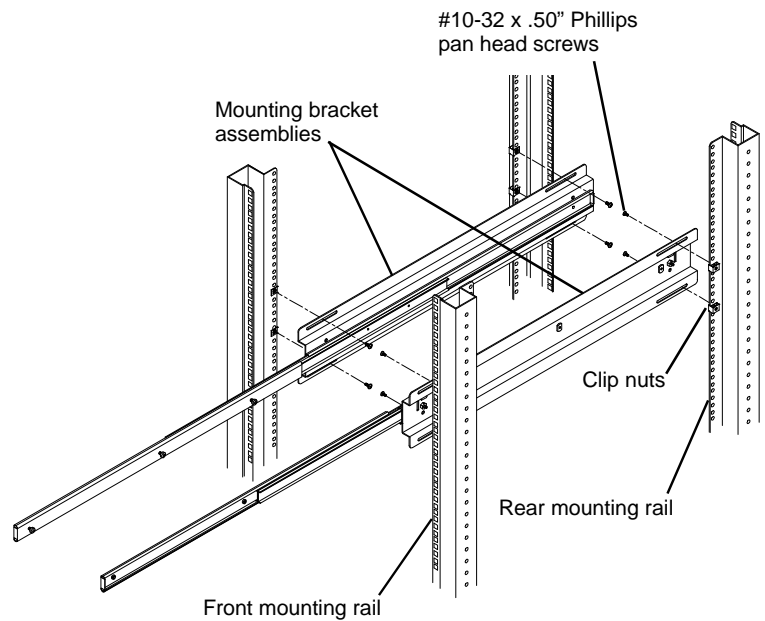

Figure 6
3. Attach the Mounting Bracket assemblies to the Clip Nuts with the #10-32 x .50" Phillips pan head screws provided and tighten securely. See **Figure 6**.